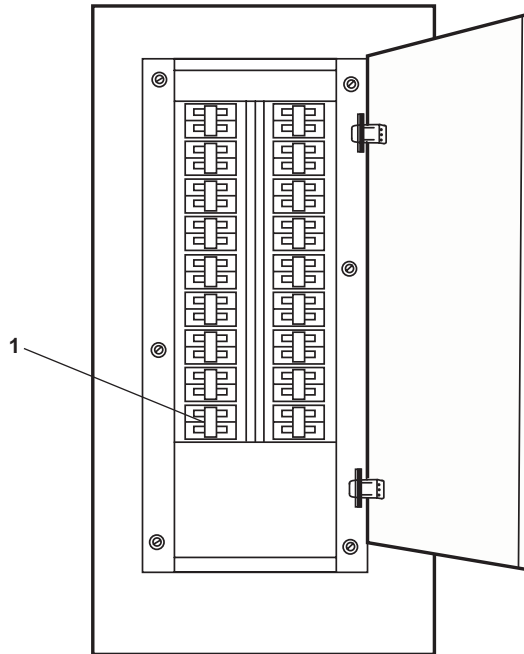

Figure 20. 120V Emergency Distribution Panel No. 1
3. At the 120V emergency distribution panel No. 1, set the BROMINATOR. circuit breaker (figure 20, item 1) to OFF.